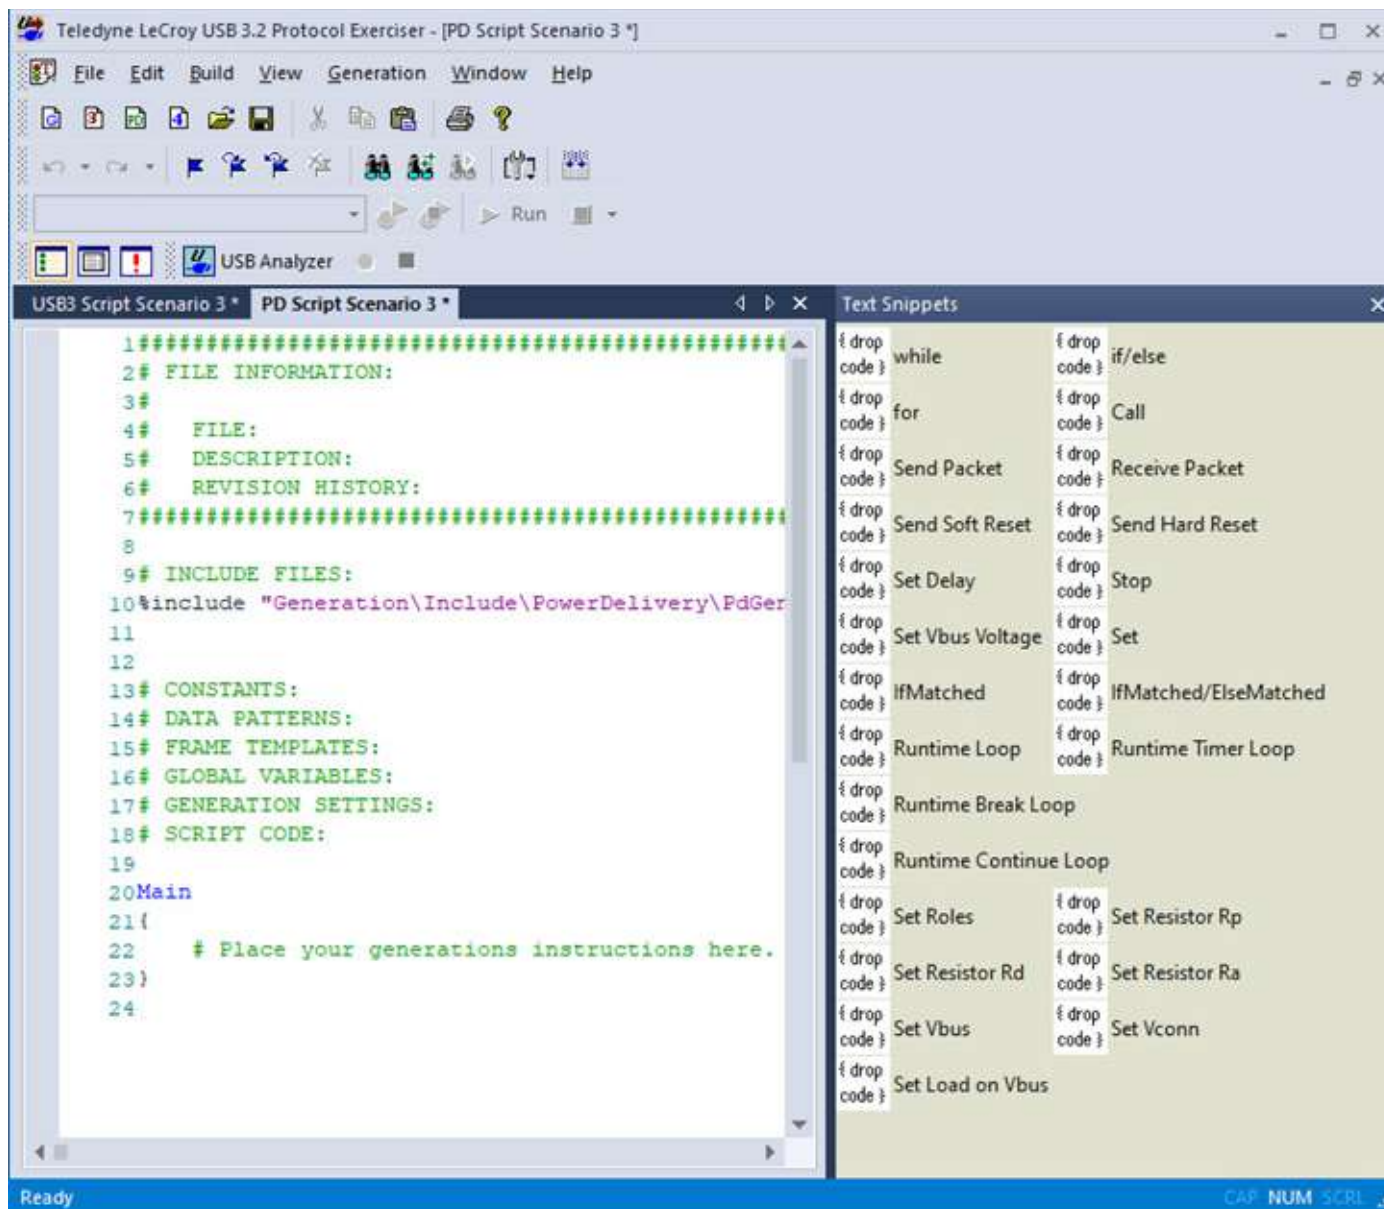

Figure 12.15: New PD Text Generation Scenario
- ☐ PD: New PD Text Generation Scenario (see Figure 12.15 on page 699)